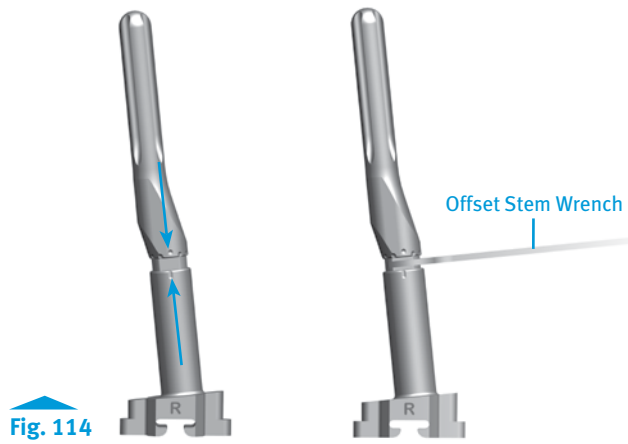

Fig. 114
- For a straight stem extension, thread the Straight Stem Extension Provisional into the Stem Extension Bushing (Fig. 114).
- Rotate the Offset Stem Extension Provisional so the appropriate number is lined up to the position noted earlier on the bushing adapter (Fig. 114).